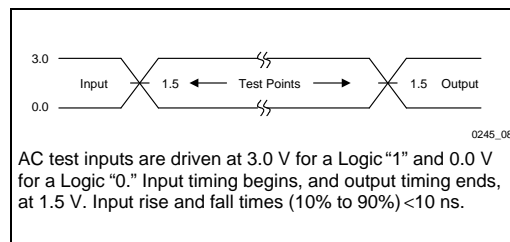
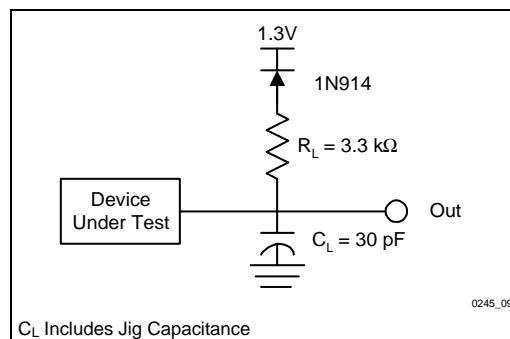

Figure 8. High Speed AC Testing Input/Output Waveforms(2)
Figure 9. High Speed AC Testing Load Circuit(2)
4. See *High Speed AC Testing Input/Output Waveform* (Figure 8) and *High Speed AC Testing Load Circuit* (Figure 9) for testing characteristics.